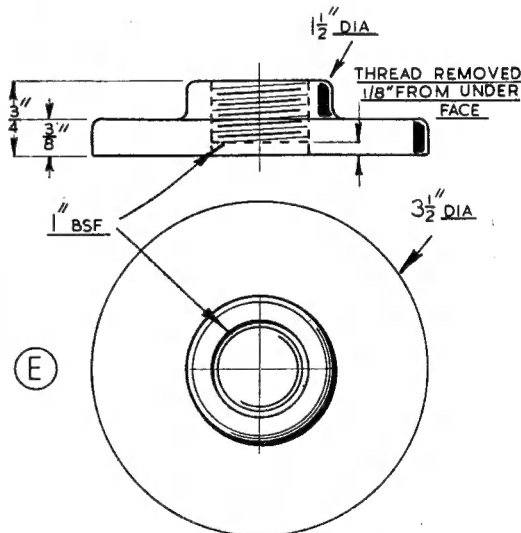

Fig. 7. Details of top-plate
*Operation 1.* The dimensions of this part are given in Fig. 7. The casting is gripped in the 4-jaw chuck and the boss is set to run truly. The face of the boss and the top surface of the plate are then machined with a right-hand knife tool. A round-nose tool is then mounted, in place of the knife tool, and is used for turning the side of the boss and for forming the fillet at its base. The slight radius at the top of the boss is best made by turning with a hand graver.